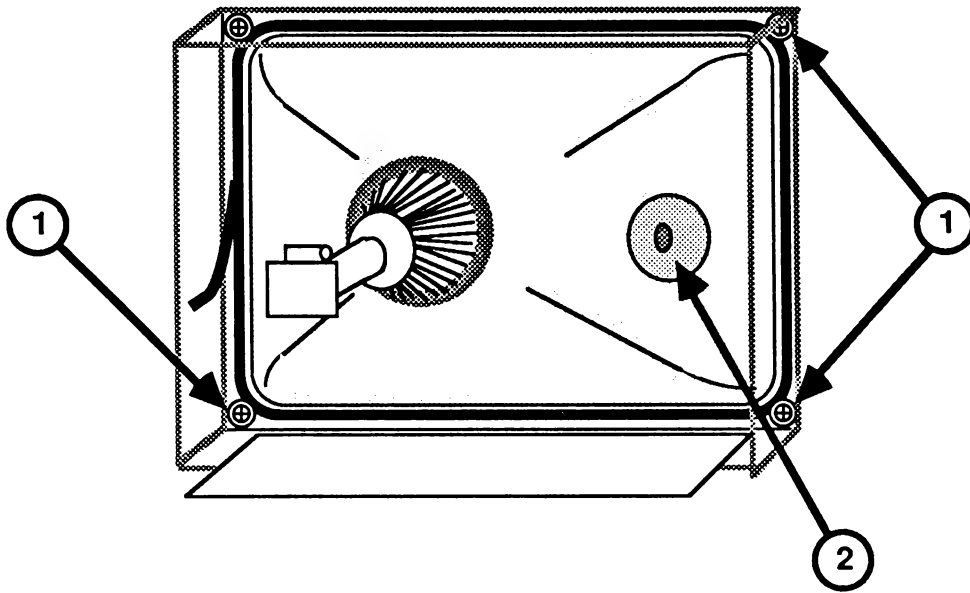

FIGURE 11
5. Place the CRT face-down on a soft surface. Remove the mounting screws (Figure 11, #1) from the four corners of the CRT. Avoid touching the anode opening (Figure 11, #2).